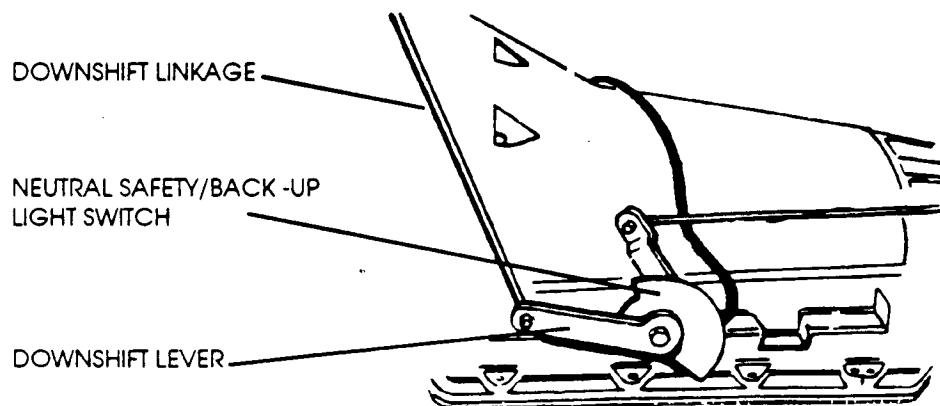

FIG. 6A
3. The stock transmission arm must be modified in order to install Hurst transmission arm Pt. 105 8559 (Item #31). Lower section of stock transmission arm must be removed (Refer to Figure 6A) to provide clearance for Hurst transmission arm.